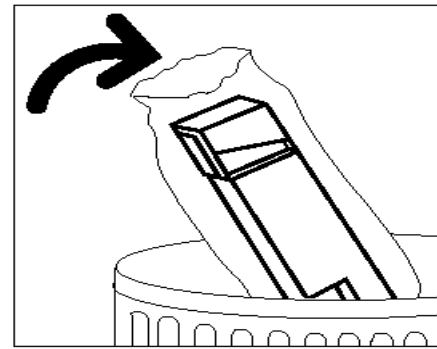

Figure 15: Disposing of the old Dry Ink Waste Container
- 5** Place the Dry Ink Waste Container in a plastic bag, as illustrated in Figure 15, and dispose of the used container according to local regulations.